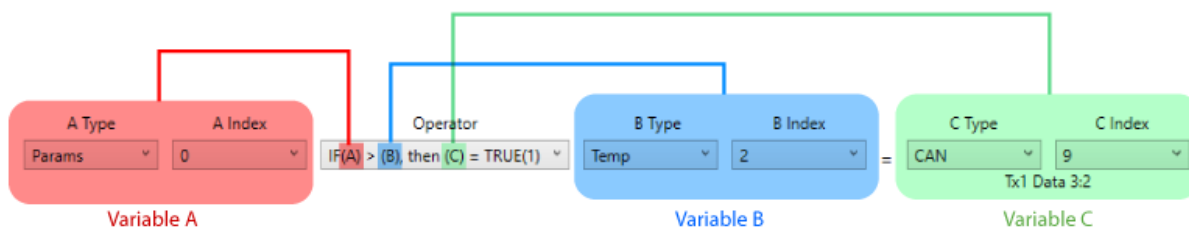

Figure 15
In a Configurator instruction, the module parameter that Variable A, B, or C represents is specified by a Type field and an Index Number field. Thus, each variable appearing in an operation has two drop-down menus associated with it. For example, in Figure 15, the user has selected *IF (A) > (B), then (C) = TRUE(1)* as the Operator. As a result, the row was populated with drop down menus for variables A (highlighted in red), B (highlighted in blue), and C (highlighted in green).
The module parameters available through the Type and Index drop-down menus in Figure 15 are presented on the pages below. Note that each parameter value is 16 bits.